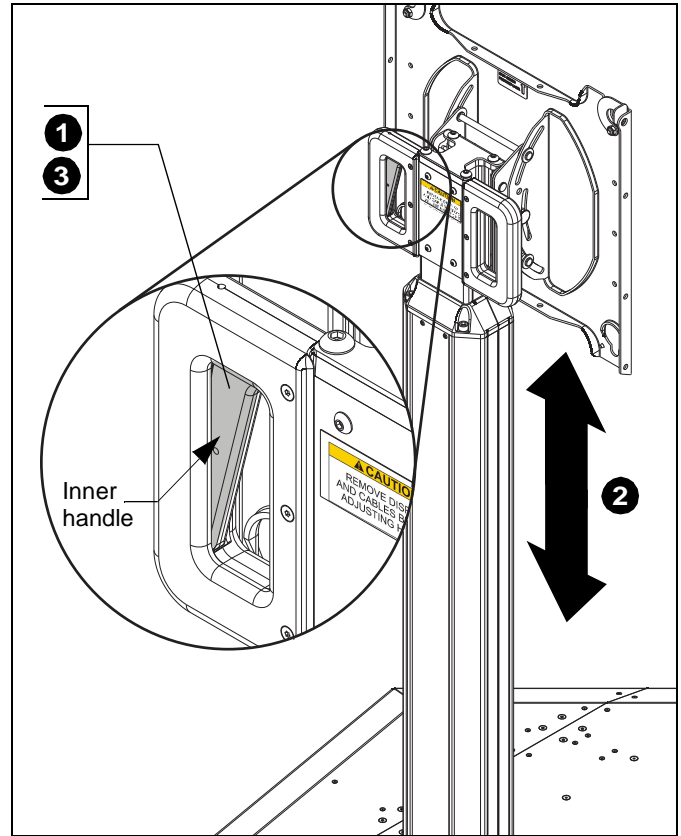

Figure 7
1. Prepare to adjust height of column by holding both handles, pulling the inner handle and lifting. (See Figure 7)